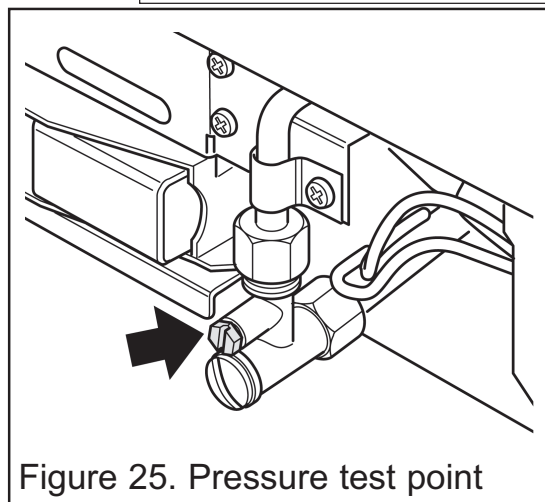

Figure 25. Pressure test point
1. Ensure that the fire is turned OFF before removing the pressure test point sealing screw. Check the inlet pressure by fitting a pressure gauge at the test point. The test point is on the inlet 'T' connector (See figure 25). Check the pressure with the appliance alight and set at maximum output.